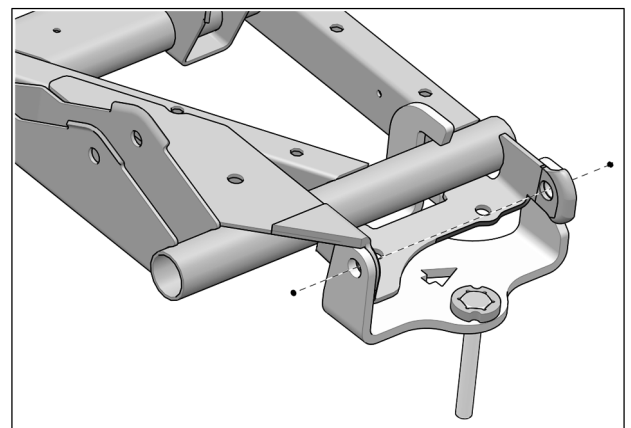

Fig. 8
7. Align side bracket holes with the holes in the suspension arm as shown below in Fig. 8